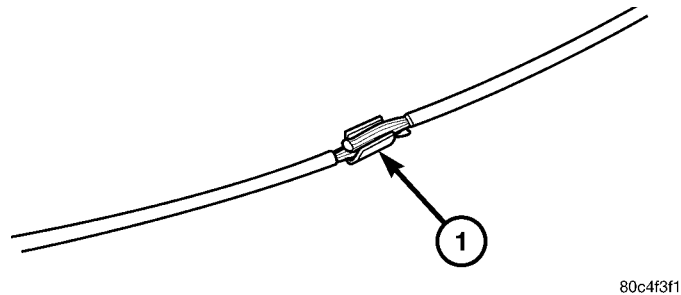

Fig. 1 SPLICE BAND
3. Place the strands of wire overlapping each other inside of the splice band (Fig. 1).